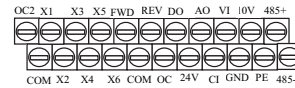

Fig. 2-2 Control terminal arranging
(2) Control loop terminal CN2, arranged as Fig. 2-2